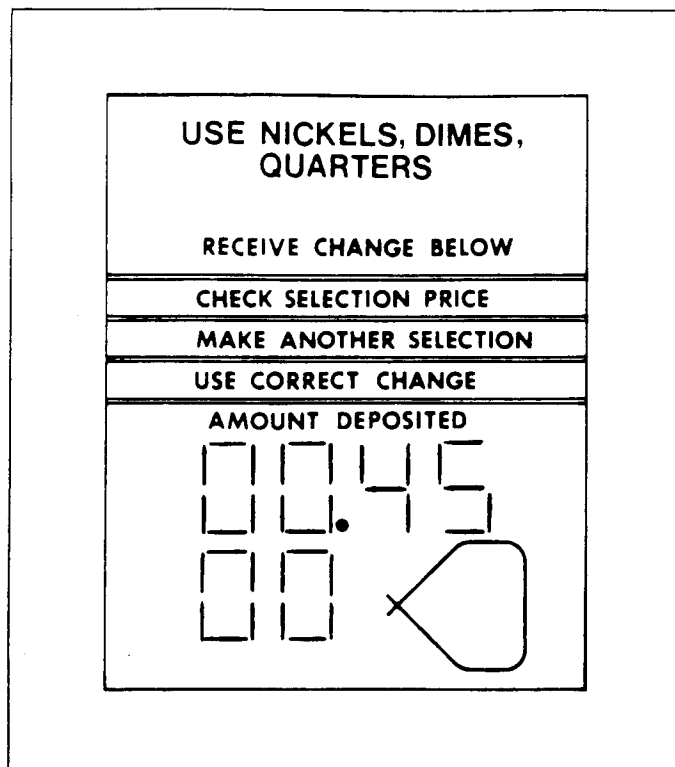

Figure 15. SHOWING A SELECTION PROGRAMMED FOR 45¢
- Press the letter and then the number for the first selection to be checked. The price display will show the price that selection is programmed for (Figure 15). Check the displayed price against the price tab on the shelf for that selection.
- B. Press the letter and then the number for the first selection to be checked. The display will show the price and product code that selection is programmed for (Figure 15). Check the displayed price against the price tab on the shelf for that selection.